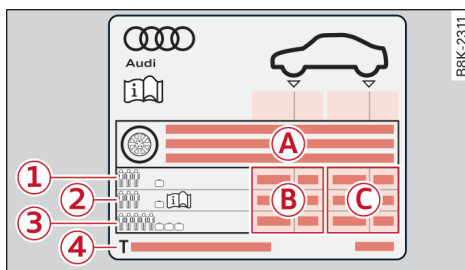

Fig. 165 B-pillar on driver's side: tyre pressure sticker
The correct inflation pressures for tyres fitted at the factory and for the spare wheel* are specified on a sticker. The sticker ⇒ *Fig. 165* is on the B-pillar (driver's side).
- Refer to the sticker ⇒ *Fig. 165* for the correct tyre pressures.
Each time you change a tyre, change the wheels round or change the tyre pressures on your vehicle (e.g. when switching from partial load to full load and vice-versa), you must store the new tyre pressures ⇒ *page 262*. Monitoring of the tyre pressures is based on the tyre pressures you have stored. The inflation pressures recommended for your vehicle are given on the tyre pressure sticker ⇒ *page 258, Fig. 165*.